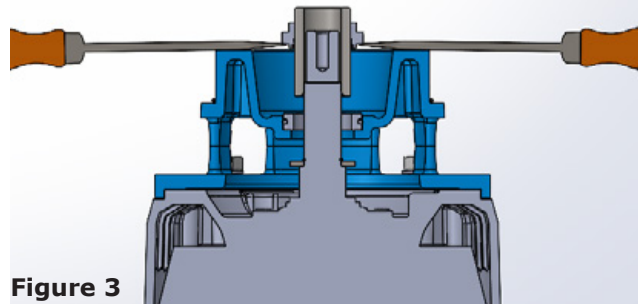

Figure 3
10. Pry the rotating member of the seal the rest of the way off the motor shaft using two screwdrivers 180 degrees apart under the seal face. (Figure 3).